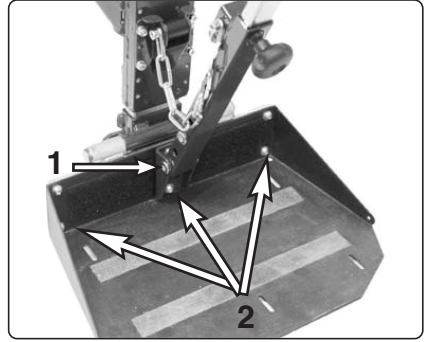

Fig. 10. Leg rest and foot plate
2. Unscrew and remove the knee stops, which is mounted with a screw, see Fig. 10:1.
3. Unscrew and remove the six screws which are holding the foot plate, see Fig. 10:2.